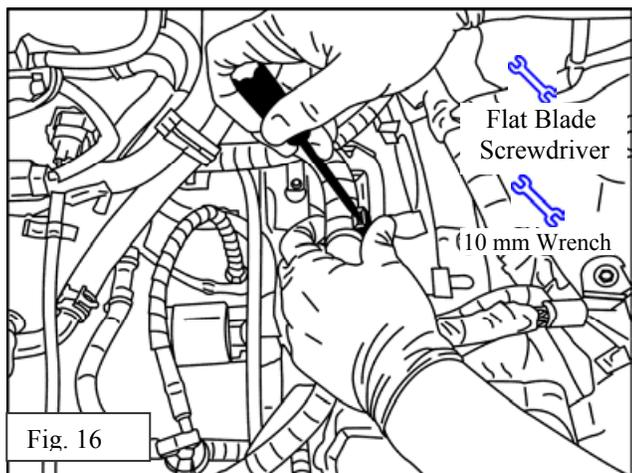

Fig. 16
- (e) Remove plastic wiring loom clamp (small flat blade screwdriver) and remove metal clamp bracket (10mm wrench). Fig 16. Be sure to support metal bracket with your hand when removing 6 mm bolt to prevent bracket from bending or twisting out of position.